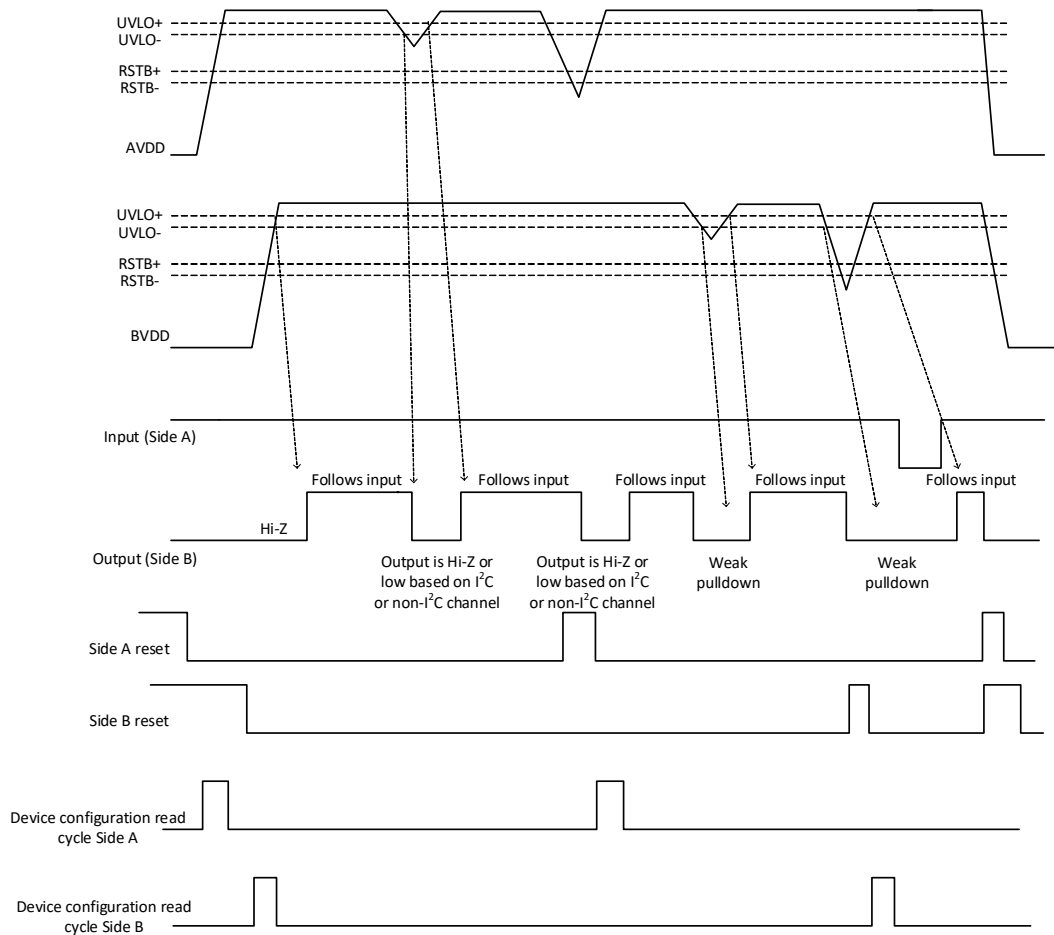

Figure 5. Device Behavior During Startup
Undervoltage Lockout (UVLO) is provided to prevent erroneous operation during device startup and shutdown or when VDD is below its specified operating circuits range. Side A and Side B each have their own undervoltage lockout monitors. Each side can enter or exit UVLO independently. For example, referring to Figure 5, Side A unconditionally enters UVLO when AVDD falls below UVLO– and exits UVLO when AVDD rises above UVLO+. Side B operates the same as Side A with respect to its BVDD supply.
- Powered (P) state is defined as 3.0 V < VDD < 5.5 V.
- Unpowered (UP) state is defined as VDD = 0 V.
- Refer to Figure 5, "Device Behavior During Startup," on page 5. This shows the start-up time from unpowered state, below 1.7 V (RSTB) threshold to powered state, is 0.3 ms. If VDDO only dips below 2.1 V (VDDOK level in diagram below) but stays above RSTB level, the start-up time is 1 us.